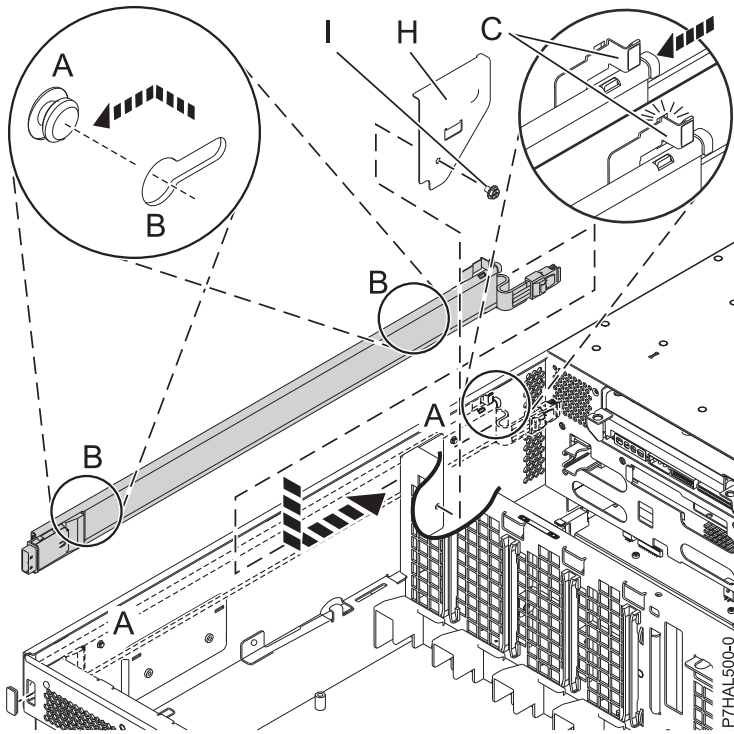

Figure 128. Attaching the SAS cable
**Tip:** See Figure 128 on page 152 to complete the next few steps.
8. Insert the pins (A) on the side of the system into the slots (B) on the SAS cable assembly.
9. Slide the cable assembly back until the pins (A) are seated and the latch (C) snaps in place.
10. Attach the cable bracket (H) by placing the notch on the bracket over the post on the side of the system, aligning the screw hole (I) with the hole on the side of the system, and securing the cable bracket with the screw.